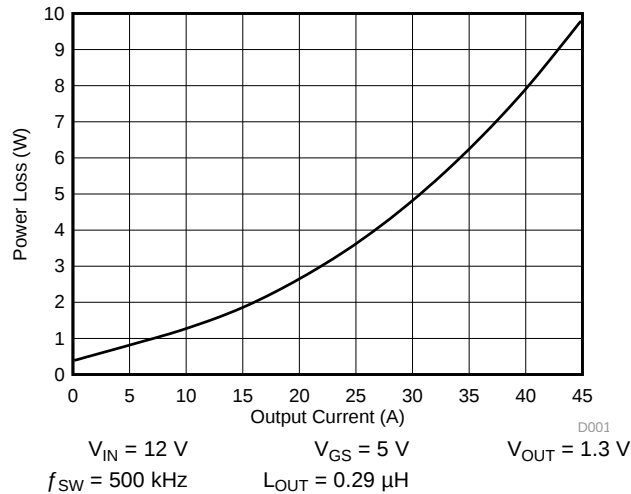
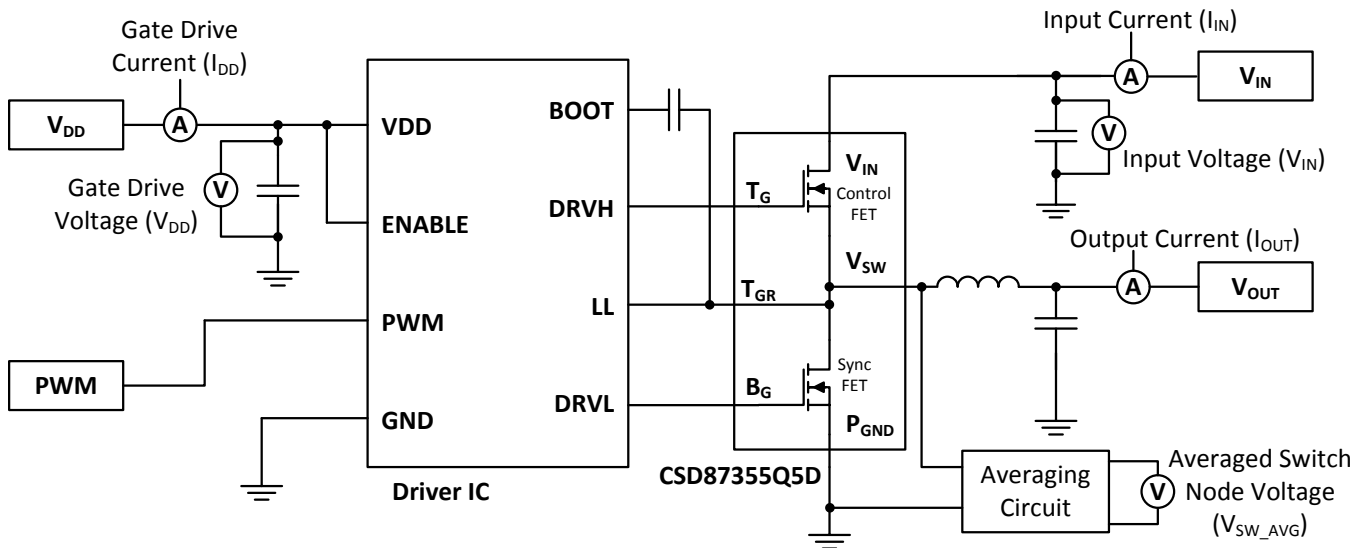

Figure 1. Power Loss vs Output Current
図 31.
MOSFET centric parameters such as $R_{DS(ON)}$ and Q_{gd} are needed to estimate the loss generated by the devices. In an effort to simplify the design process for engineers, Texas Instruments has provided measured power loss performance curves. 图 1 plots the power loss of the CSD87355Q5D as a function of load current. This curve is measured by configuring and running the CSD87355Q5D as it would be in the final application (see 图 31). The measured power loss is the CSD87355Q5D loss and consists of both input conversion loss and gate drive loss. 式 1 is used to generate the power loss curve.
The power loss curve in 图 1 is measured at the maximum recommended junction temperatures of 125°C under isothermal test conditions.
- Power Loss at 25 A = 3.62 W (Figure 1)